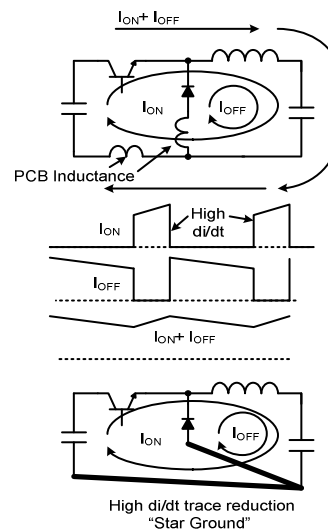

Figure 2: Step Down Converter Layout
The converter uses a 1.23V reference voltage at the positive terminal of the error amplifier. To set the output voltage, a programming resistor from the feedback node to ground must be selected (R_1 and R_3 of figure 2). A 10K Ω resistor is a good selection for a programming resistor R_3 . A higher value could result in an excessively sensitive feedback node while a lower value will draw more current and degrade the light load efficiency. The equation for selecting the voltage specific resistor (R_1) is:
4. Ground. The most quiet ground or return potential available is the output capacitor return. The inductor current flows through the output capacitor during both the on time and off time, hence it never sees a high di/dt. The only di/dt seen by the output capacitor is the inductor ripple current which is much less than the di/dt of an edge to a square wave current pulse. This is the best place to make a solid connection to the IC ground and input capacitor. This node is used as the star ground shown in Figure 2. This method of grounding helps to reduce high di/dt traces, and the detrimental effect associated with them, in a step-down converter. The inductance of these traces should always be minimized by using wide traces, ground planes, and proper component placement.